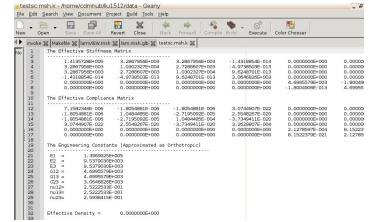

Fig. 7
* Click SwiftComp->Homogenization->Solid model. Keep the default parameters and click save and run. The homogenization results will automatically pop up (Fig. 7.).